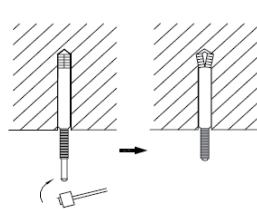

Fig. 4.4
- (3). Insert the anchor bolts into the drilled holes, and drive the pins completely into the anchor bolts with a hammer. (Fig. 4.4)